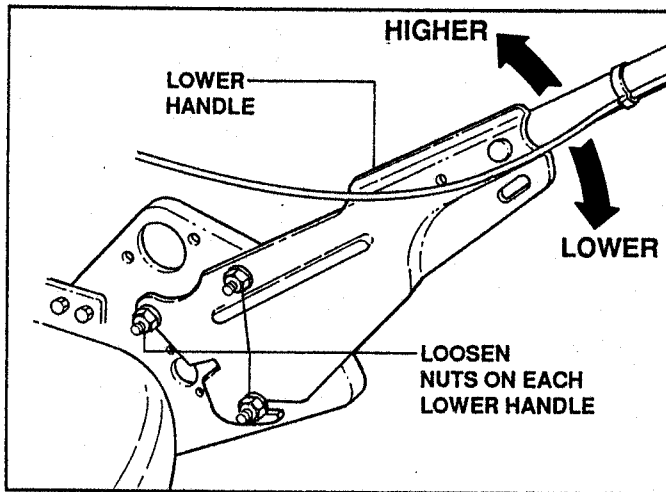

FIGURE 2.2
1. Loosen the lower nuts on each lower handle as shown in Figure 2.2.